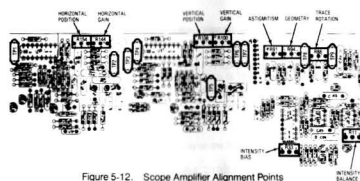

Figure 5-12. Scope Amplifier Alignment Points
2. While using the Focus Control to maintain a focused display at the center of the CRT, adjust the Astigmatism and Geometry potentiometers (Figure 5-12) for the best focus at the outer edges of the CRT while minimizing the pincushion and barrel distortion of the display. The two adjustments are interactive so that repeated small adjustments alternated between the two potentiometers will be required to obtain the best display.
2. Adjust the Intensity Bias potentiometer (Figure 5-12) until a dot appears on the screen. (The Vertical and Horizontal Position Control on the front panel may have to be used to bring the dot on to the screen.) Then back off the Intensity Bias potentiometer until the dot just disappears.
2. Adjust the Intensity Balance potentiometer (Figure 5-12) for uniform intensity of the horizontal trace from left to right. The Balance potentiometer affects the intensity on the left side of the trace.
2. With the Test Point Shorting Jumper connect TP1 of the Scope Amplifier Board (Figure 5-12) to chassis ground.
3. Adjust the Horizontal Position Potentiometer (Figure 5-12) so that the vertical trace on the CRT screen passes through the graticule center point.
2. With the Test Point Shorting Jumper connect TP4 of the Scope Amplifier Board (Figure 5-12) to chassis ground.
3. Adjust the Vertical Position Potentiometer (Figure 5-12) so that the horizontal trace on the CRT screen passes through the graticule center point.
2. Adjust the Trace Rotation Potentiometer (Figure 5-12) for a properly rotated CRT display.
3. Connect an oscilloscope with a calibrated vertical input to TP1 on the Scope Amplifier Board. (Figure 5-12).
5. With 3V p-p at TP1 adjust the Horizontal Gain Potentiometer (Figure 5-12) for a horizontal trace 6 cm long on the CRT. (Use the front panel controls to position the trace at a convenient place near the center of the CRT.)
4. Connect an oscilloscope with a calibrated vertical input to TP4 on the Scope Amplifier Board. (Figure 5-12).
6. With 3V p-p at TP4 adjust the Vertical Gain Potentiometer (Figure 5-12) for a 6 cm p-p sine wave on the CRT. (use the front panel Position Controls to center the waveform on the CRT.)